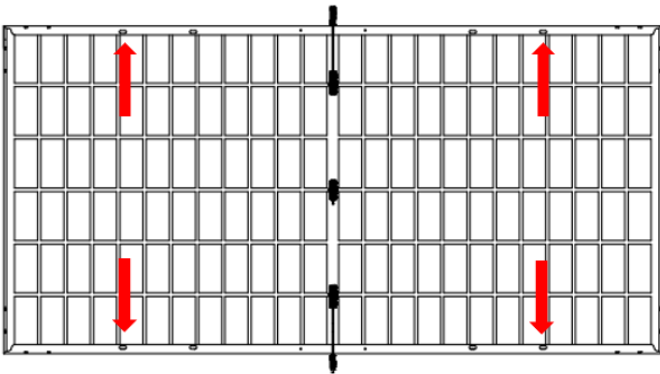
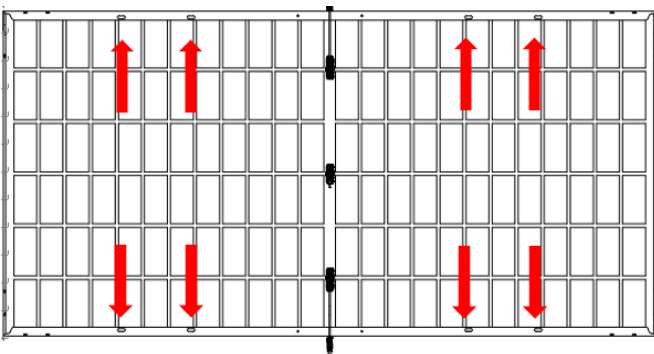

Figure 1
Figure 3
- ① All modules must be secured by at least 4 bolts (as shown in figure 1 and 2). For maximum safety precaution, it is recommended to make use of all installation holes available, as shown in figure 3.
2. Insert 4 stainless bolts (M8) into the mounting holes in figure 1 or 2.